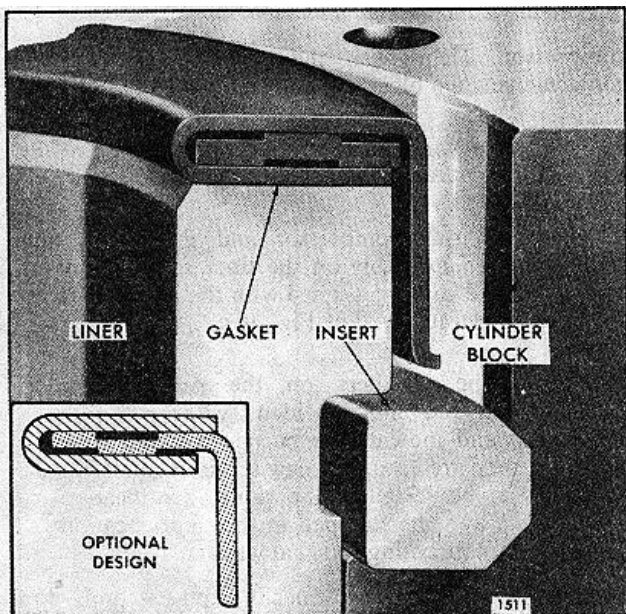

Fig. 8 - Cylinder Liner Mounting in Block
2. Place a standard size cylinder liner insert (.1795"-.18001, thick) in the block counterbore (Fig. 8).